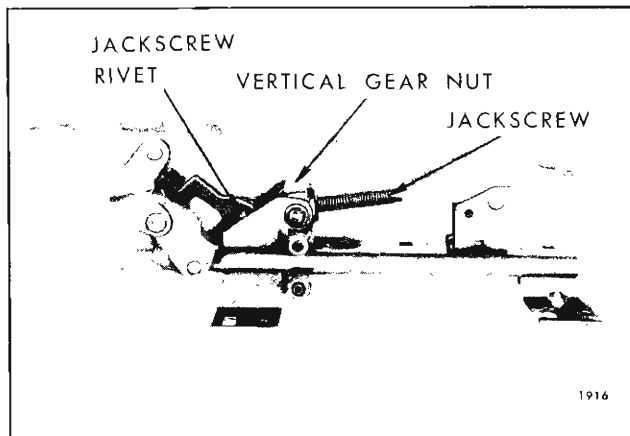

Fig. 2H8—Front Seat Adjuster Four-Way Tilt
1. Remove front seat assembly as previously described and place upside down on a clean protected surface (Fig. 2H6).
3. Remove screws securing motor and transmission support to seat bottom frame. (Fig. 2H6).